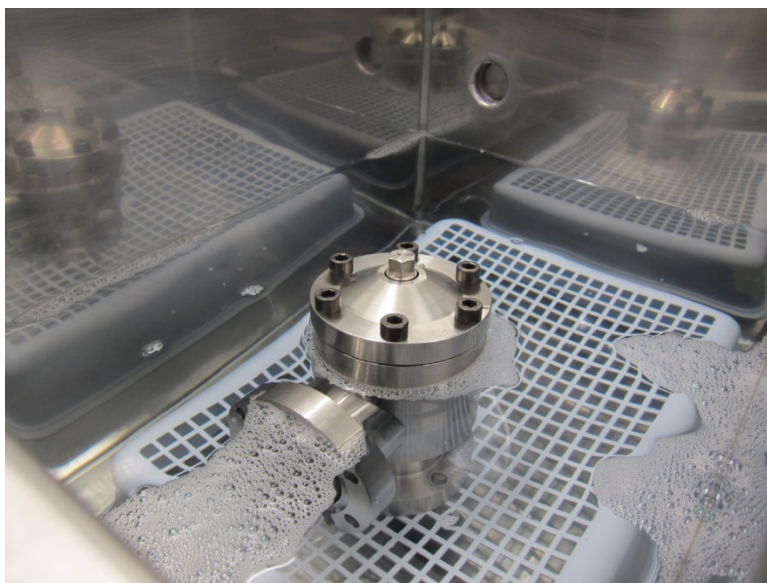

Figure 2
- Close the draining valve of USC tank. Fill the tank with UPW and Micro90 to make a solution of 2% concentration. Examples of Micro90 volume needed are listed in Table 1. Proportion the detergent volume according to the actual solution level, which depends on the height of the valve. Make sure that the two connecting ports on the valve are immersed in water, and the water level should be below the bonnet seal, as shown in Figure 2.